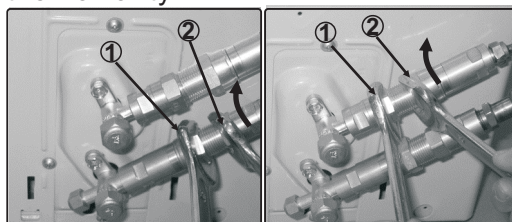

Fig.6.4
4. Now tighten the bottom screw connector first and then the top screw connector using the open-ended spanner. Hold the points marked “①” using an open-ended spanner and turn the nuts only at the points marked “②” using an open-ended spanner (Select the appropriate spanner according to the dimensions of the connector), see Fig.6.4